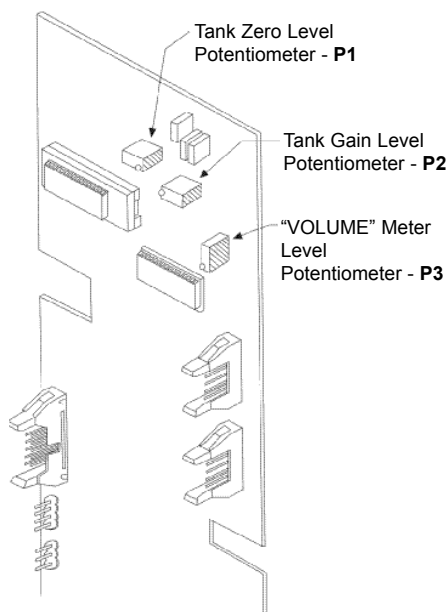

Figure 2.0.2
8. On the hydraulic side, view the lower tank scribe line (zero line located about 1/8” above bottom gray gasket Figure 2.0.1). Water level should be even with the lower tank scribe line. If it is, proceed to step 9 in this procedure. If not, adjust P1 (Figure 2.0.2) and repeat steps 3-8 until water level is even with the lower tank scribe line.
NOTE: Adjust P1 (Figure 2.0.2) clockwise to raise level in tank (counter-clockwise to lower level) for zero line adjustment. Adjust one turn to change the level approximately 1/8”.
14. On the hydraulic side, view the upper tank scribe line (507 mark located approximately in the middle of the tank Figure 2.0.1). Water level should be even with the upper tank scribe line ($\pm 1/4$). If it is, proceed to Step 15 in this procedure. If not, adjust P2 (Figure 2.0.2) and repeat Steps 9-14 until water level is even with the upper tank scribe line.
NOTE: Adjust P2 (Figure 2.0.2) counter-clockwise to raise level in tank (Clockwise to lower level). Adjust one turn to change the level approximately 1/8”.
Volume Cell value equals 70 (etched value). Volume displayed by machine equals 66. Difference in milliliters equals 4 mL. Adjust P3 (Figure 2.0.2) 1 turn counter-clockwise per mL difference in volume value to eliminate the volume error. Therefore, a 4 mL difference will require 4 turns counter-clockwise.
Volume Cell value equals 70 (etched value). Volume displayed by machine equals 74. Difference in milliliters equals 4 mL. Adjust P3 (Figure 2.0.2) 1 turn clockwise per mL difference in volume value to eliminate the volume error. Therefore, a 4 mL difference will require 4 turns clockwise.